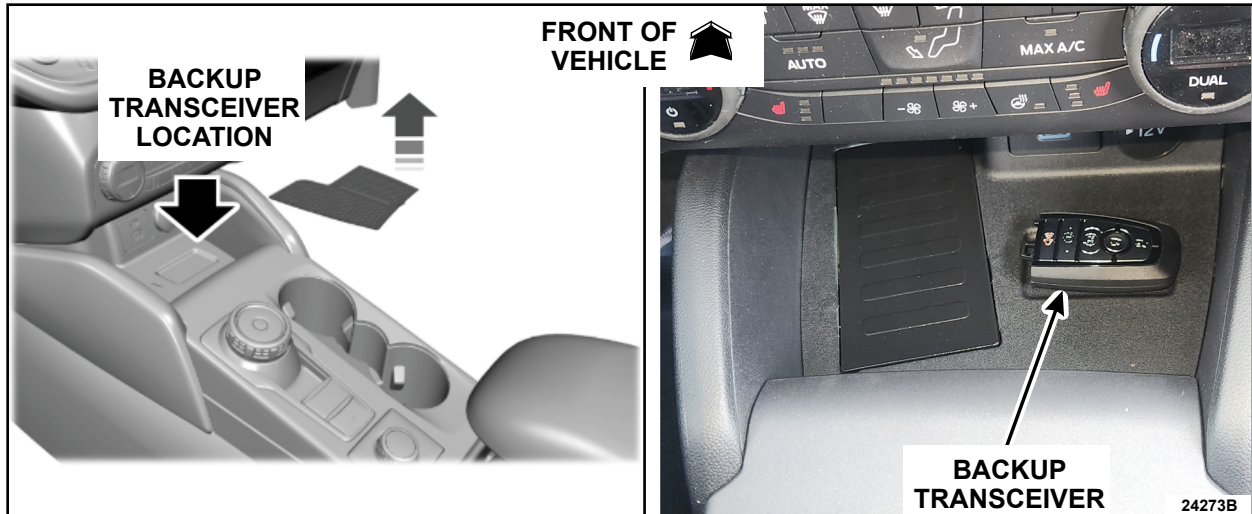
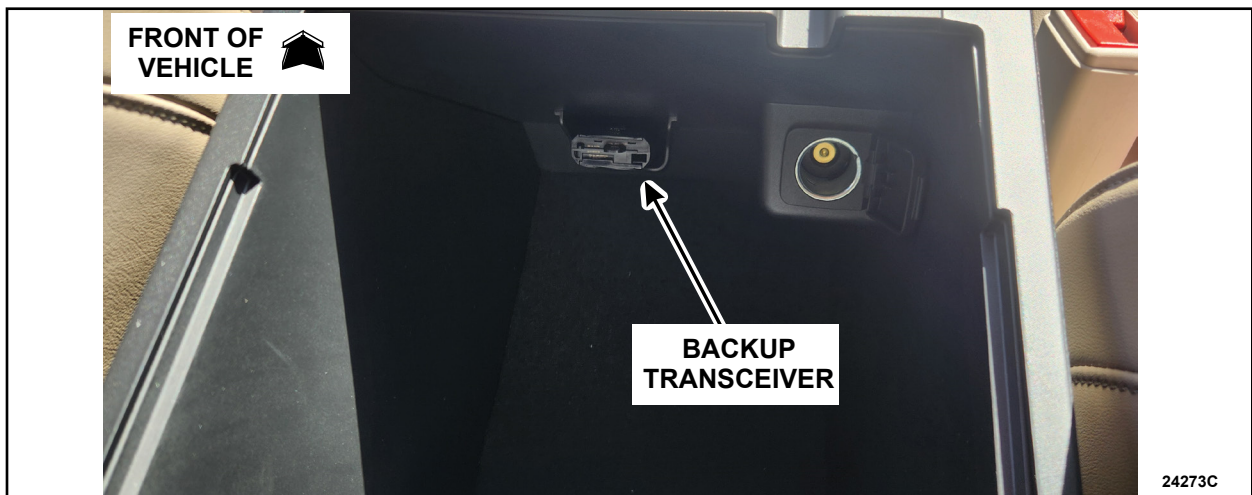

FIGURE 2
FIGURE 3
10. When prompted, place the key remote control that is to be programmed onto the backup transceiver location then click OK. See Figure 2 for Bronco Sport and Escape, or Figure 3 for Explorer.